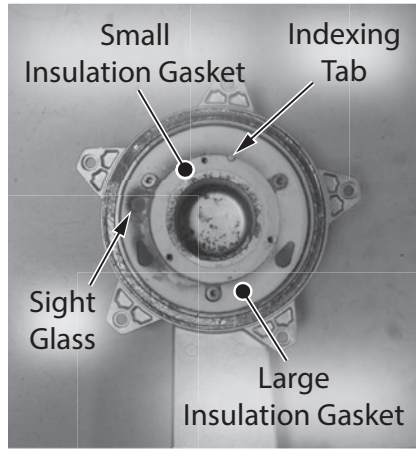

Figure 118 - Burner insulation gaskets
22 Locate the small and large insulation gaskets on the burner door as shown in Figure 118. Use a plastic scraper to gently scrape insulation clean from burner door. Confirm burner door surfaces are free of any debris or leftover insulation.
23 Locate the new, small insulation gasket (100371051) provided in the kit. Install the small insulation gasket first. Flip gasket so the adhesive side is facing the burner door surface. Note the indexing tab on the burner door to properly orient the gasket (Figure 118). Confirm gasket sits evenly and flush with burner door.
24 Locate the new, large insulation gasket (100371054) provided in the kit. Install the large insulation gasket second. Flip gasket so the adhesive side is facing the burner door surface. Note the location of the sight glass on burner door to properly orient the gasket (Figure 118). Confirm gasket sits evenly and flush with burner door.
27 Locate the new burner provided in the kit. Install burner to burner door. Use the indexing tab to properly orient burner as shown in Figure 118. Secure with the three (3) screws previously removed in **Step 20**.